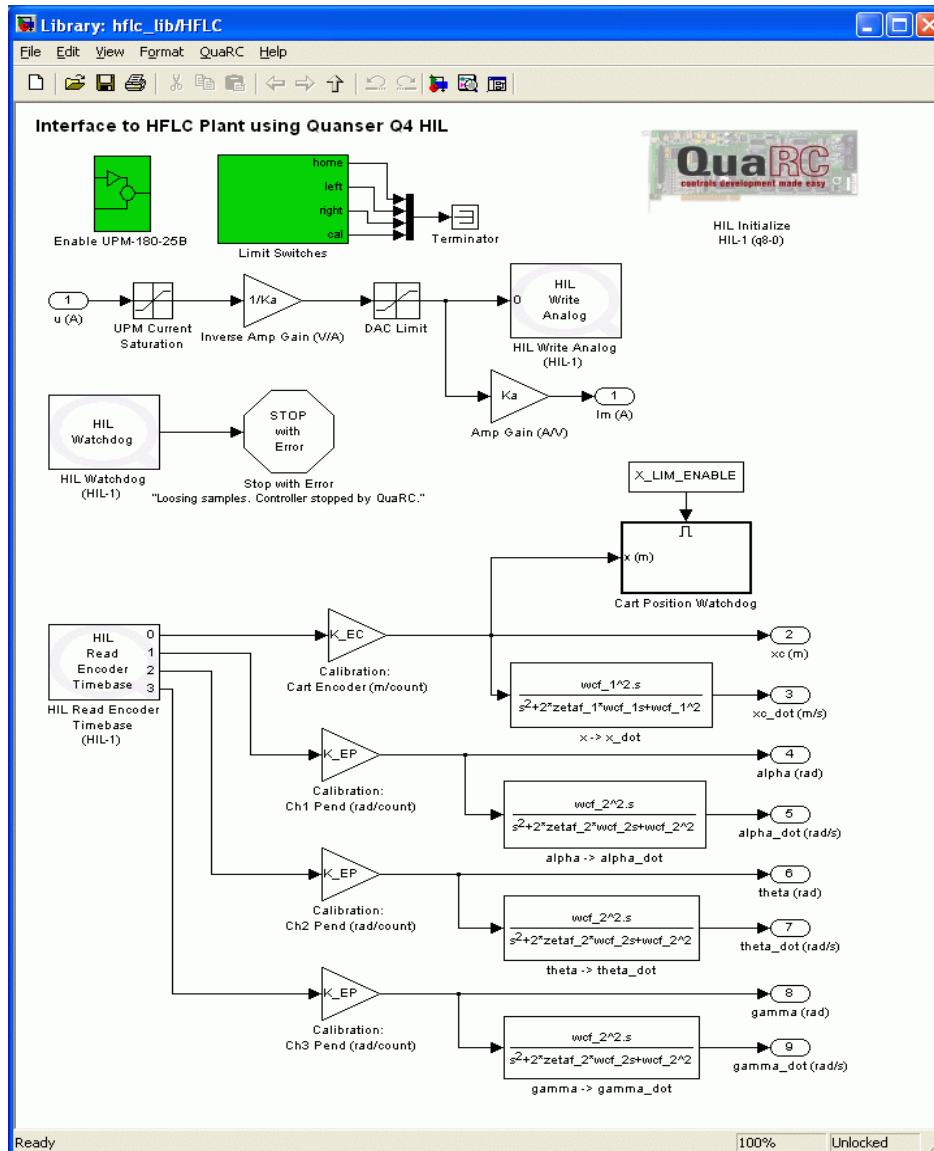
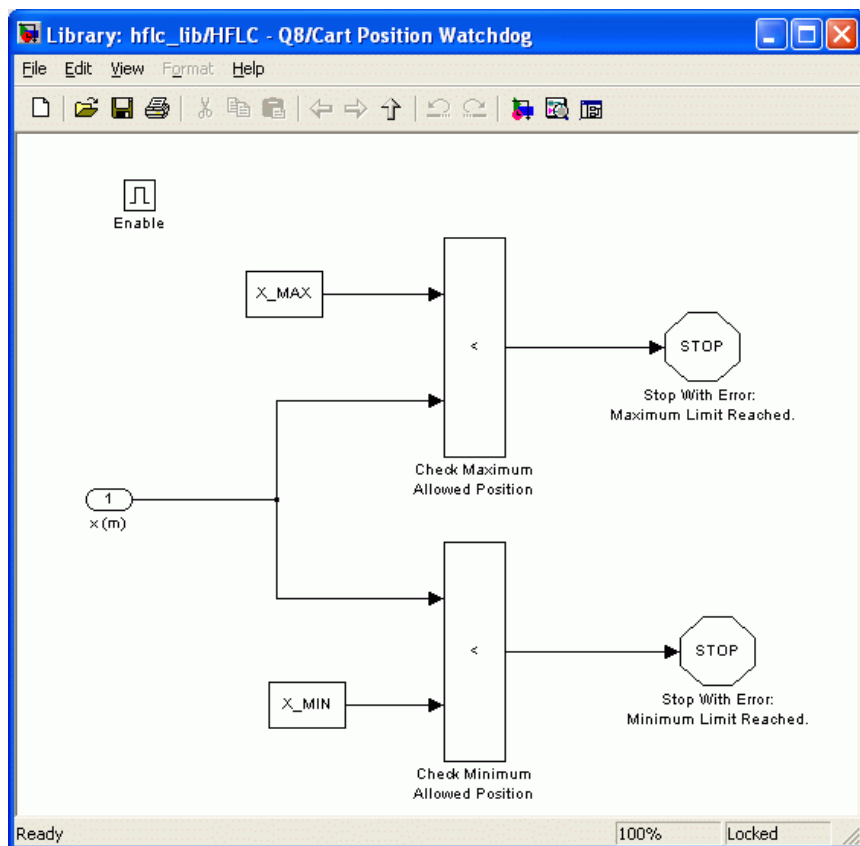

Figure 18 Interface subsystem to the actual HFLC plant.
Figure 21 Cart position watchdog.
The interior of the *HFLC* subsystem is given in Figure 18. This subsystem is standard and is used in all the experiments listed in Table 1. The details of driving the HFLC motor is described in Section 7.1.2. Section 7.1.3 summarizes the calibration gains used to calculate
The values fed to the input terminal of the *HIL Write Analog QuaRC* block shown in Figure 18 are outputted by the Analog Output channel on the DAQ board which is then fed to the power amplifier to drive the motor. The Simulink source node labeled  $u(A)$  is the control input to the HFLC. When facing the front of the HFLC, as shown in Figure 1, the cart
where  $K_a$  is the amplifier gain,  $u$  is the control input, and  $IMAX\_UPM$  is the maximum continuous current deliverable by the power amplifier or the maximum rated peak current of the HFLC motor, as defined in Table 4. By default  $IMAX\_UPM$  is set to 15.0 A which is just below the maximum peak current of the HFLC motor, 15.6 A. With this imposed limitation, the control input is saturated at  $\pm 15.0$  A (and not by the data-acquisition board). The  $Im$  (A) output node shown in Figure 18 is used to read the current running in the HFLC motor.
The *HIL Read Encoder Timebase* block in Figure 18 outputs the number of counts measured by the encoders connected to the Encoder Input channels 0-3 on the DAQ board. The positive cart direction is defined when the cart moves towards the right when facing the front of the HFLC cart, as shown in Figure 1. This is achieved by having a negative sign in the cart encoder sensitivity constant,  $K\_EC$ , defined in Table 4. In quadrature mode, the encoder mounted on the HFLC motor outputs 8192 counts per revolution. Therefore the sensor gain used to obtain the linear position of the cart is
The *Cart Position Watchdog* block shown in Figure 18 stops the real-time controller when the measured cart position goes beyond the variables X\_MIN and X\_MAX from its starting position. As shown in Figure 21, this is implemented in the *Cart Position Watchdog* block using *Relational Operators* and *Stop With Error* blocks. The X\_MIN and X\_MAX variables are specified in the corresponding laboratory Matlab setup file. Further, the safety limit can be enabled/disabled using the X\_LIM\_ENABLE variable.
The *Enable UPM-180-25B* subsystem is also contained in the *HFLC* block, as shown in Figure 18. This block is required to enable the power amplifier in order to drive the HFLC motor and therefore perform experiments. The amplifier is therefore not enabled unless QuaRC is running a controller that was built from a Simulink model that included this block. See Reference [3] for details on enabling the UPM-180-25B device.